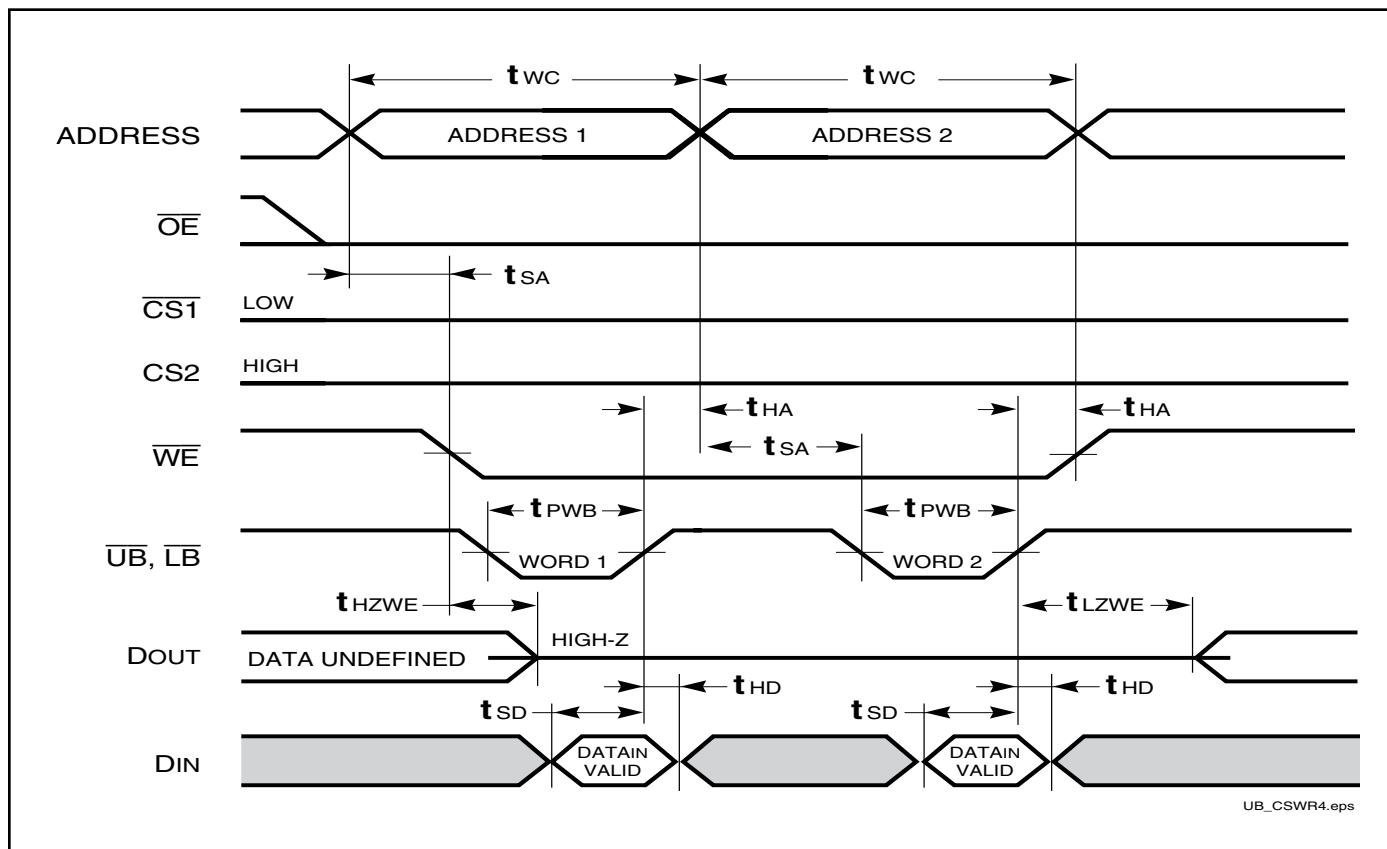
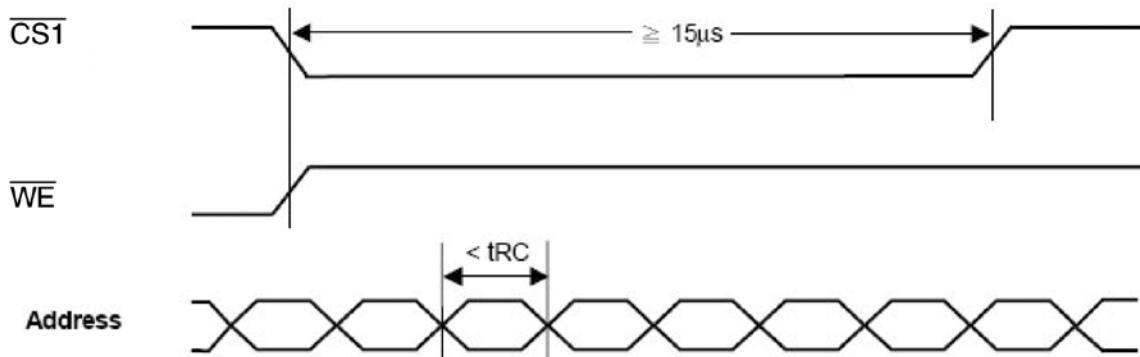

Figure 1:
Figure 2:
1. Test conditions assume signal transition times of 5 ns or less, timing reference levels of 0.9V/1.5V, input pulse levels of 0.4 to V_{DD}-0.2V/0.4V to V_{DD}-0.3V and output loading specified in Figure 1.
3. Tested with the load in Figure 2. Transition is measured ± 100 mV from steady-state voltage. Not 100% tested.
Please avoid address change for less than t_{RC} during the cycle time longer than 15 µs (Figure 1). Figure 2 & 3 provide work around solution for this issue.